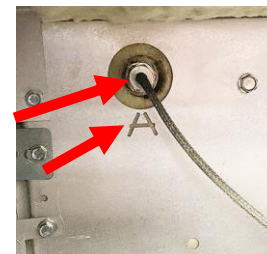

Figure 58
59. Reconnect the AIF probe in the port marked with a "A" (see Figure 58). Tighten compression fitting to 200-inch lbs.